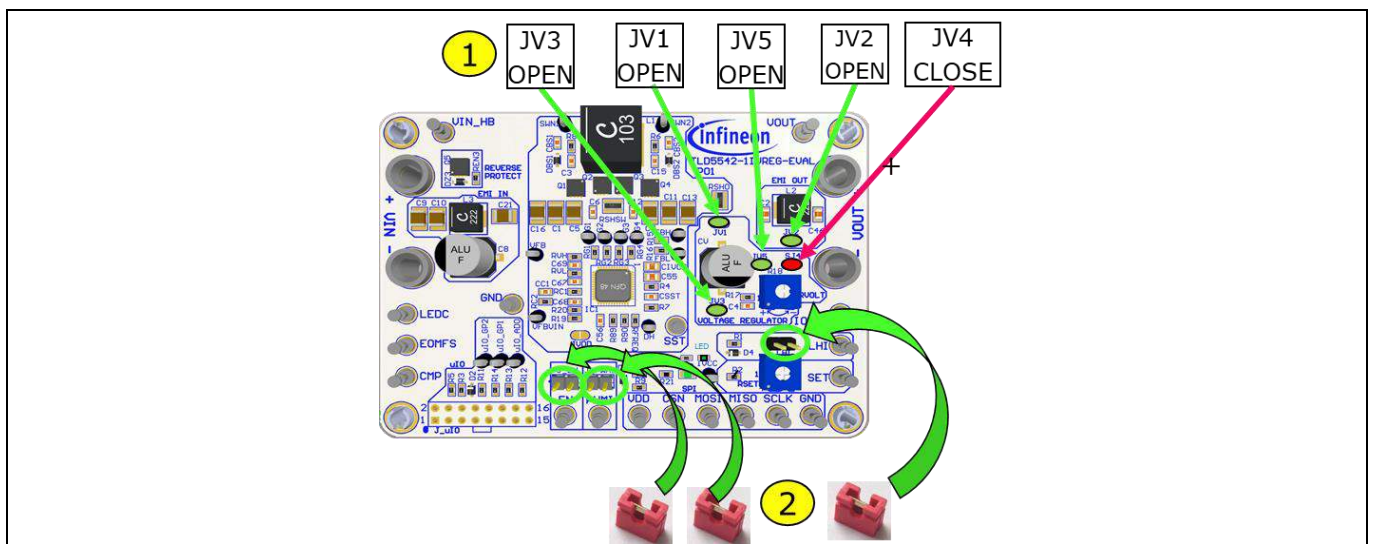

Figure 4 Connect loads and set jumpers for limp home
1. Configure solder jumper for LED driver configuration: Figure 4